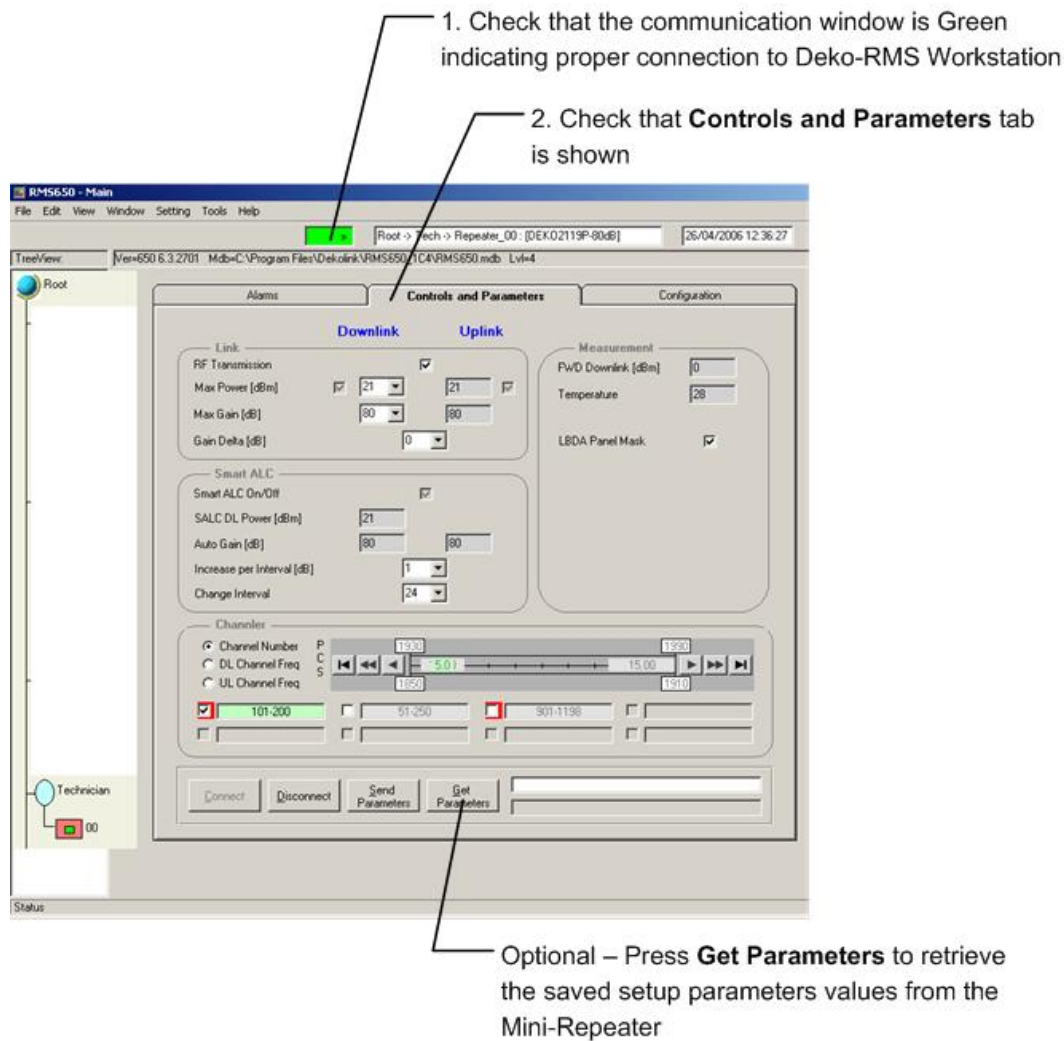

Figure 16: Displaying the Controls and Parameters Screen
1. Click on the **Controls and Parameters** tab (see Figure 16)
3. Optional - Press the Get Parameters button to pull out the parameters values from the Mini-Repeater (last setup values) – (see Figure 16)